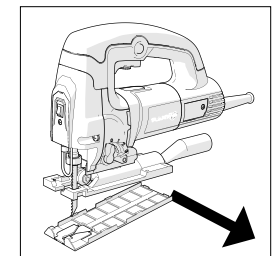

Fig 6
- Unclip the plastic footplate shoe and store safely for future installation. (Fig. 6)